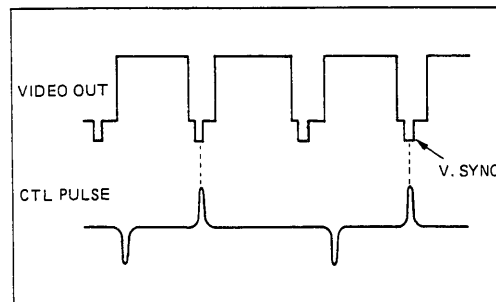

Fig. 4 Tracking Preset
- 2) Adjust RT604 so that the vertical sync in the video signal and the positive peak of the control pulse align as shown in Fig. 4.